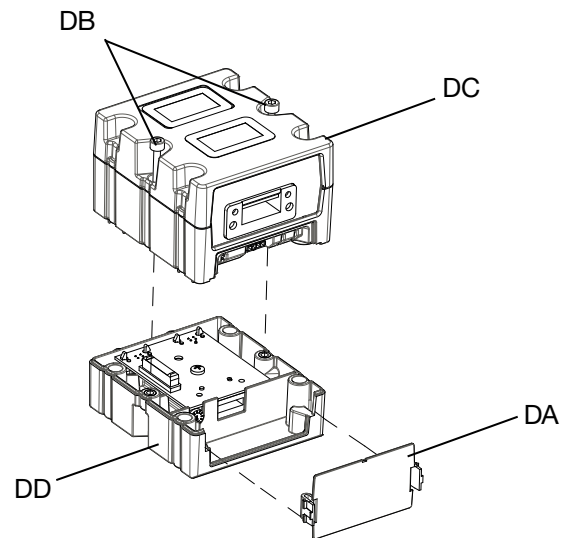

FIG. 50: Disassembling the CGM
4. Remove the access cover from the CGM (DA). Loosen and save the two M5-0.8 x 45 mm x screws (DB), and remove the CGM (DC) from the base (DD). See FIG. 50.
5. Using the four M4-0.7 x 20 mm mounting screws included in the kit, mount the base (DD) to the CGM bracket.
6. Reattach the CGM (DC) onto the base (DD) with the two screws (DB) that were removed and saved from step 4.
7. Reattach the access cover (DA).
8. Unplug the cable from the ADM and plug the cable back into CGM (DC).